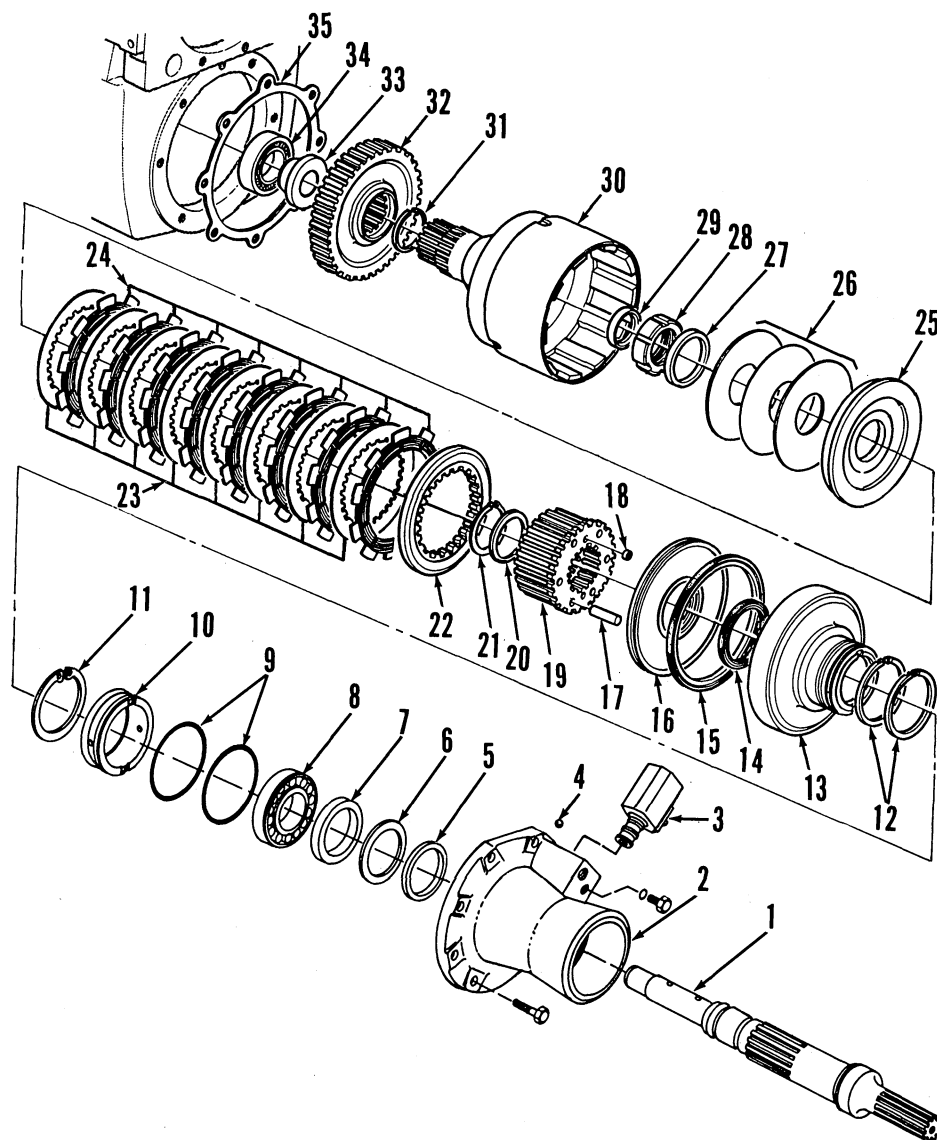
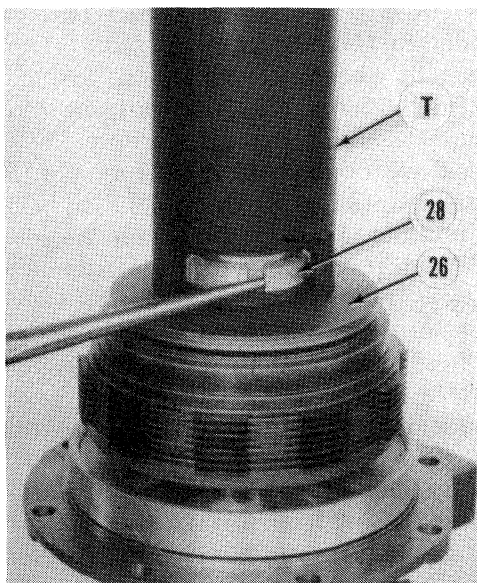
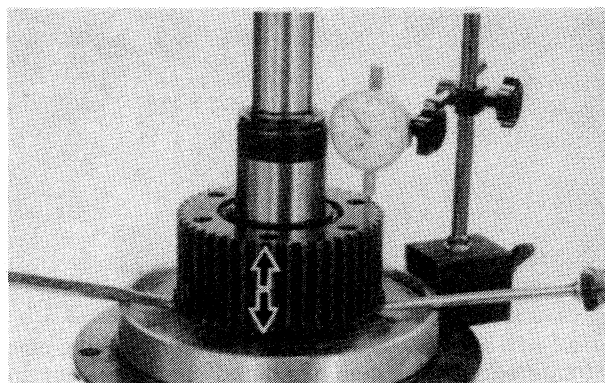
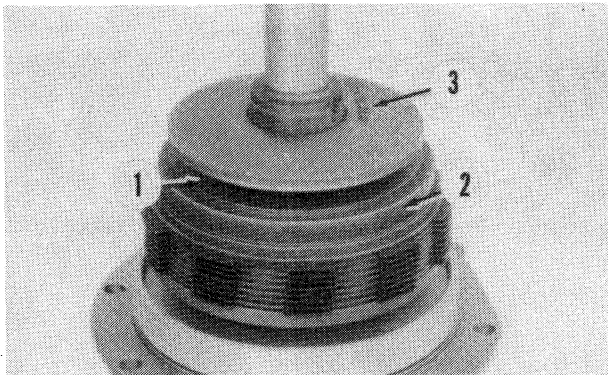

Fig. 7—Exploded view of MFWD clutch assembly used on tractors equipped with Quad-Range transmission.
Fig. 9—Use horseshoe shaped tool (T) and a press to compress Belleville springs.
Fig. 10—Use dial indicator to check end play of clutch hub.
Fig. 11—Install Belleville springs so outer diameter of first spring (1) is against pressure plate (2) and spring with measurement (3) is on top.
dowels and a floor jack (clutch weighs about 90 pounds [41 kg]), then withdraw clutch assembly. Remove clutch drum (30—Fig. 7) from clutch housing if it does not come out with clutch assembly.
To disassemble, remove washer (29) and straighten locking tabs on nut (28). Use a suitable horseshoe shaped tool (T—Fig. 9) to compress Belleville springs (26), then unscrew nut (28). Release Belleville spring tension, then remove nut (28—Fig. 7), washer (27), springs (26), pressure plate (25), clutch discs (24) and plates (23) and plate (22). Remove snap ring (21), washer (20) and hub (19) with pins (17). Pry piston housing (13) from quill (2). Tap piston housing on a block of wood to remove piston (16). Remove seal rings (12) and piston seals (14 and 15). Remove shaft retaining ring (11), then tap end of clutch shaft (1) on a block of wood to remove from housing. Remove bearing (8) and bushing (10). Remove oil seal (7), spacer (6), washer (5) and "O" rings (9).
To reassemble clutch, reverse the disassembly procedure while noting the following items. Install bushing (10) into housing (2) with beveled side first. Make certain clutch shaft (1) is completely seated in housing. Assemble inner and outer seals (14 and 15) so grooved side of seals faces offset side of piston (16). Assemble piston housing (13), piston, hub (19), washer (20) and snap ring (21), then use a dial indicator (Fig. 10) to check end play of hub (19). If necessary, adjust end play by changing thickness of washer (20—Fig. 7) to obtain 0.008 inch (0.2 mm) end play. Install pressure plate (22) with beveled edge toward piston. Install discs (24) and plates (23) alternately, starting with a disc and ending with a plate. Install clutch release pins (17) into hub (19). Install rear pressure plate (25) with offset side toward clutch pack. Assemble Belleville springs alternately so outer diameter of first spring (1—Fig. 11) is against pressure plate (2) and spring with measurement (3) is located on top as shown. Use drum (30—Fig. 7) to align clutch disc tangs, then remove drum making sure tangs remain aligned.
Belleville spring pack height must be adjusted as follows: Measure and record the thickness of nut (28) and washer (27). Then, compress springs with a horseshoe shaped tool and thread nut onto shaft until locking ring on nut is about even with notches on clutch shaft. Remove compression tool and position a straightedge (C—Fig. 12) across machined surface of nut. Measure distance between straightedge and machined surface of pressure plate. Subtract the nut and washer thickness from this dimension. The result should equal the dimension marked on the top spring (Fig. 11). Note that dimension on spring is given in millimeters and a decimal point should be put
Free play between clutch shaft and clutch drum is adjusted by changing thickness of spacer washer (29—Fig. 7). If clutch shaft, drum or clutch housing is renewed, free play must be adjusted. When renewing any other parts, original washer should be installed. To adjust free play to recommended 0.020 inch (0.5 mm) dimension, proceed as follows: Install thinnest washer available on shaft. Washers are available in thicknesses from 0.270 inch (6.8 mm) to 0.380 inch (9.6 mm). Shape a piece of soft lead wire with diameter of 0.118 inch (3 mm) into a ring and position on top of spacer washer. Install clutch drum. Reinstall clutch assembly using a new gasket and tighten mounting cap screws to 80 ft.-lbs. (108 N·m). Then, remove clutch assembly and measure compressed thickness of lead wire. To calculate required